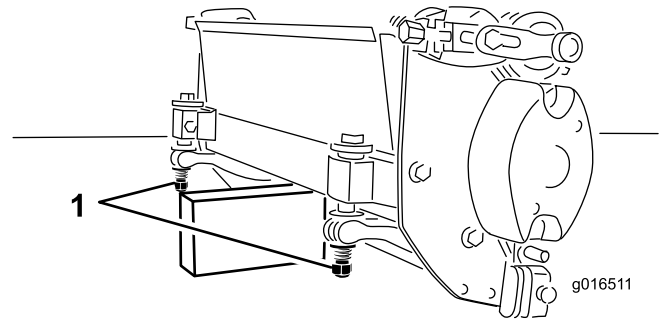

Figure 6
Whenever the cutting unit has to be tipped to expose the bedknife/reel, prop up the rear of the cutting unit to make sure the nuts on the back end of the bedbar adjusting screws are not resting on the work surface (Figure 6).
2. Tip the mower, to expose the bedknife and reel. **Make sure nuts on back end of bedbar adjusting screws are not resting on work surface (Figure 6).**
Important: Whenever the cutting unit has to be tipped to expose the bedknife/reel, prop up the rear of the cutting unit to make sure the nuts on the back end of the bedbar adjusting screws are not resting on the work surface (Figure 6).